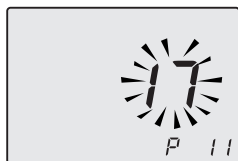

Fig. 7.31
- The writing **P11** - **SEt** alternates on the display (Fig. 7.31).